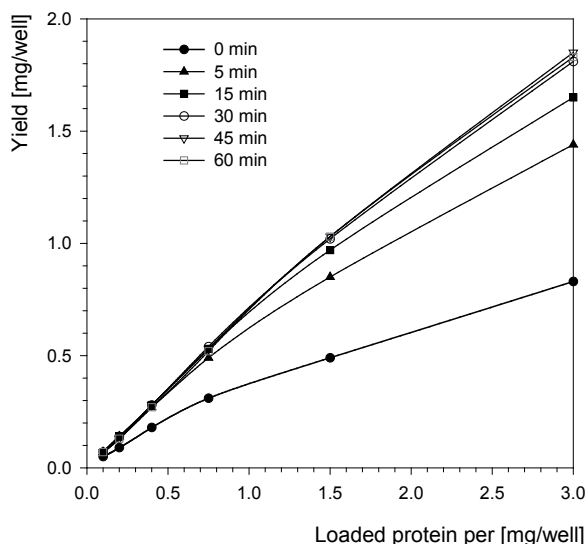

Figure 2: Impact of sample incubation time on protein yield
- As a starting point, we recommend to shake the suspension for 15–30 min (see Figure 2). However, as the purification plate is absolutely leak-free, longer sample incubation times can be used to achieve maximum yield (see Figure 2). If shorter incubation periods are required (e.g., according to protein stability), incubation can be reduced (e.g., to 5 min), but then yield may decrease (see Figure 2).